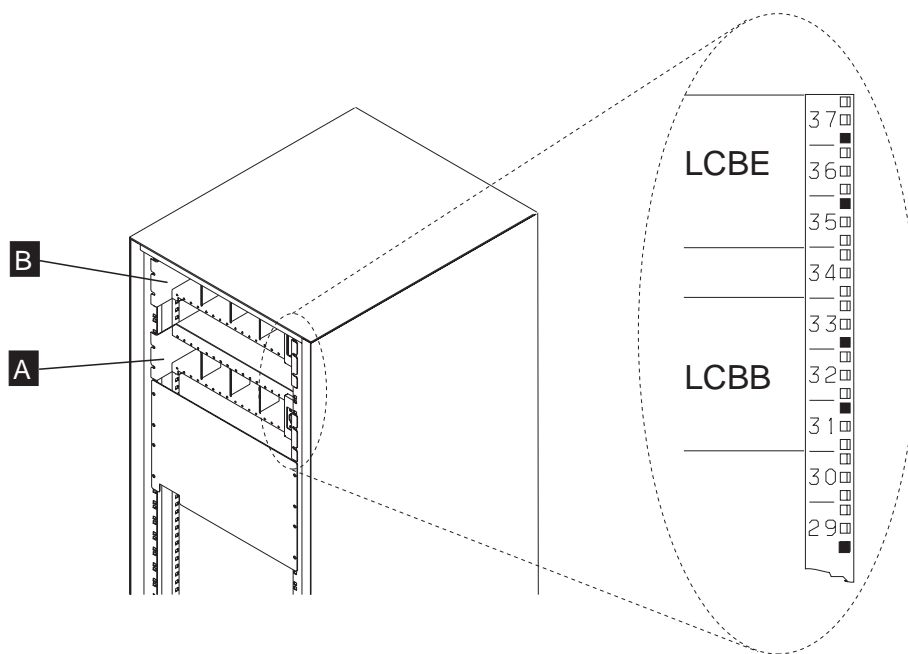
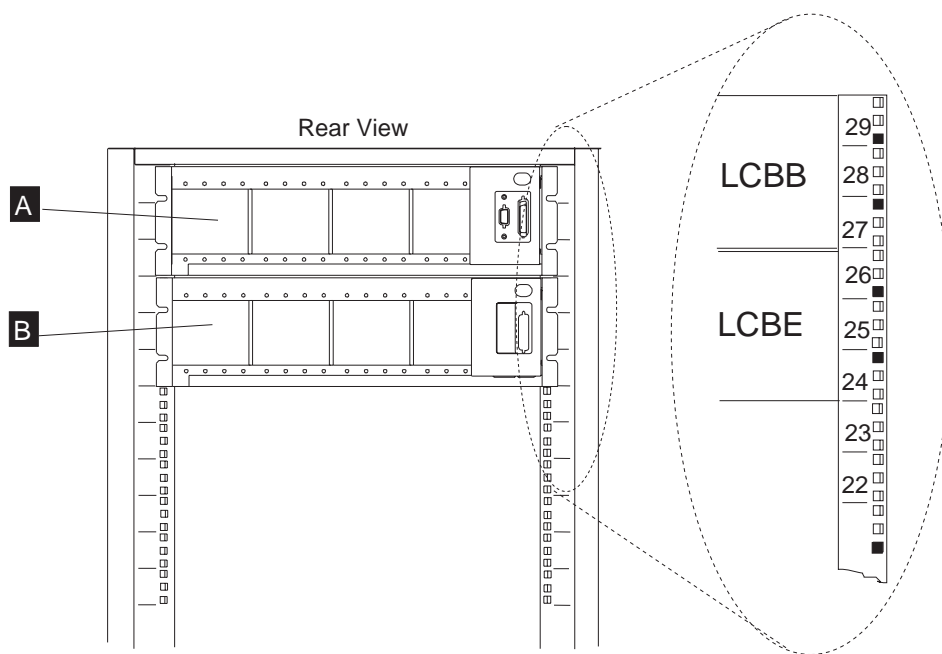

Figure 6-5. LCBs Installation in 37 U Rack
Figure 6-6. LCBs Installation in 29 U Rack
**Note:** Two LCBs can be installed in the 2220-300 or 2220-500 (two LCBBs or one LCBB and one LCBE). For LCB location in a 37 U rack see Figure 6-5 on page 6-6, for location in 29 U rack see Figure 6-6 on page 6-6.
- Refer to Figure 6-5 on page 6-6 for LCBs installed in a 37 U rack.
- Refer to Figure 6-6 on page 6-6 for LCBs installed in a 29 U rack.